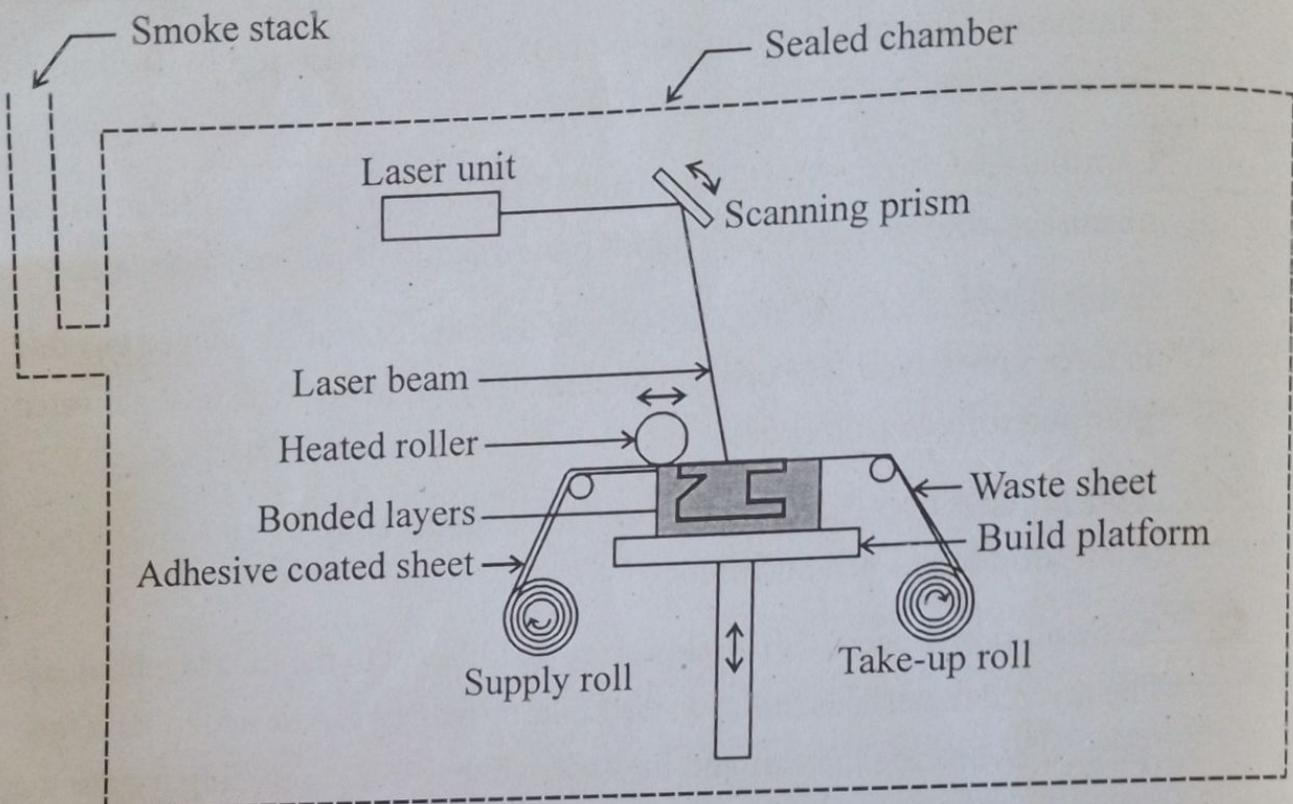

Figure 3.9 Schematic system of LOM
- ✓ Figure 3.9 is an illustration of the LOM process.